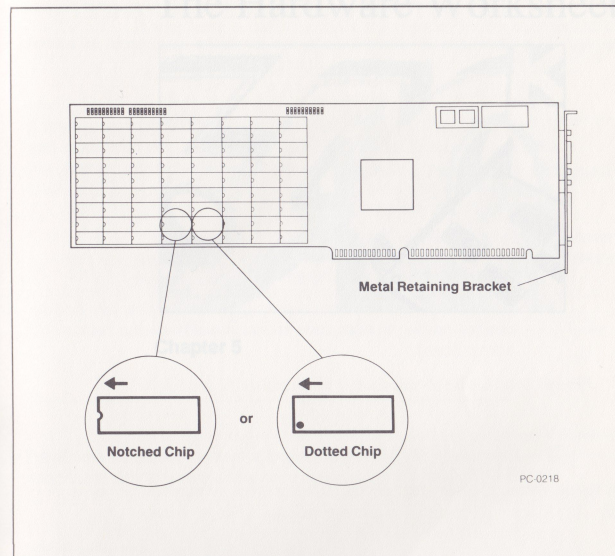

Figure 4-3 Orienting the chips correctly
- 4 When the board and chips are oriented as in Figure 4-3, the notched or dotted edge of each memory chip should point away from the metal retaining bracket.